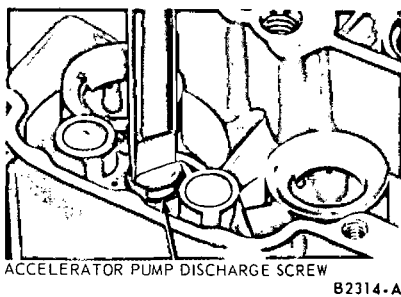

FIG. 16—Booster Venturi Removal or Installation
3. Remove the accelerator pump discharge screw, air distribution plate (if so equipped), booster venturi and gasket (Fig. 16). Invert the main body and let the accelerating pump discharge weight and ball fall into the hand. Remove the fuel inlet fitting.
discharge screw (Fig. 16). Tighten the screw.